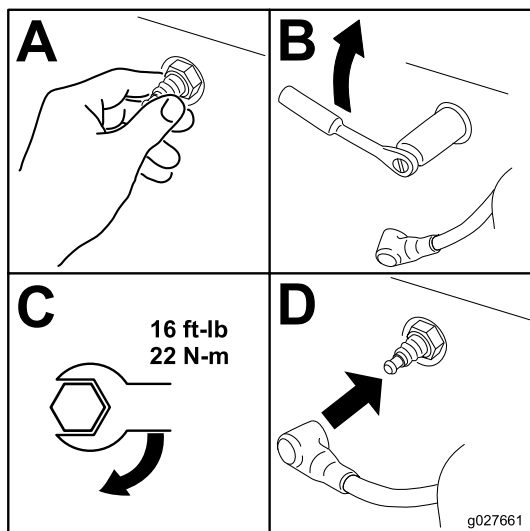

Figure 62
1. Install the spark plug(s) as shown in Figure 62.